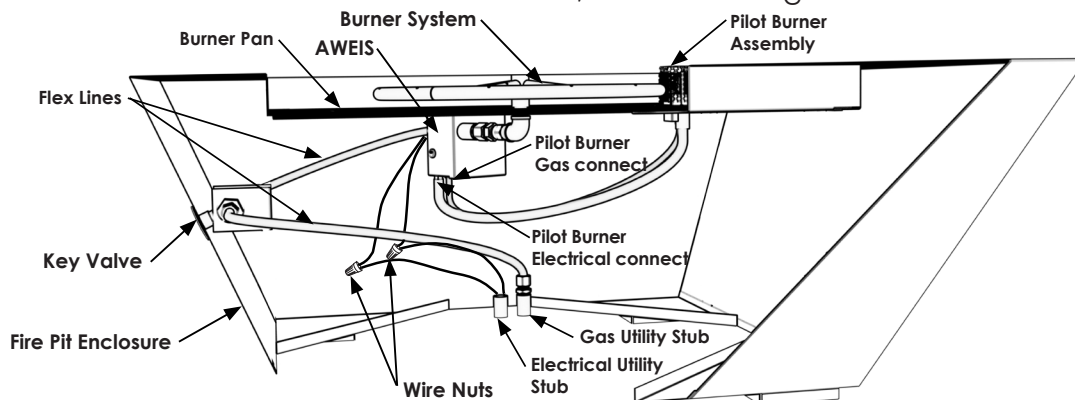

FIG. 9-2
1. Apply gas approved pipe joint compound to the gas stub and thread the flex line, connecting the gas stub to the key valve as illustrated in Fig. 9-2.
2. Using two adjustable wrenches, tighten the fitting on the top side of the AWEIS to the burner system fittings (See Fig. 9-2).
4. Using wire nuts, connect the two wires from the AWEIS to the two wires from the electrical conduit stub as shown in Fig. 9-2.
6. On the side of the AWEIS there are two connections for the Pilot Burner Assembly. The white 'quick connect' is the electrical connection and the brass plumbing fitting is the gas connection. Make these connections now, as shown in Fig. 9-2.